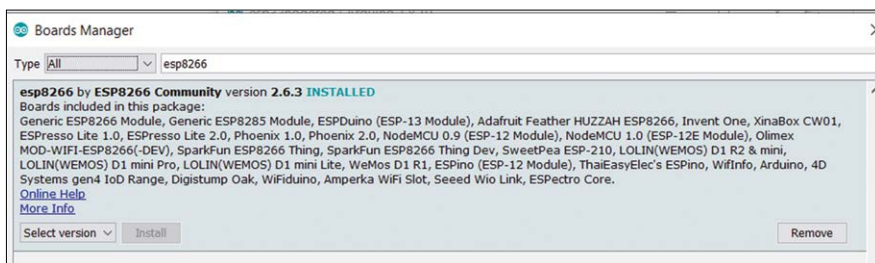

Figure 18.13 Successful installation
- After a successful installation, you should see the Installed message as in Figure 18.13. Close the screen.